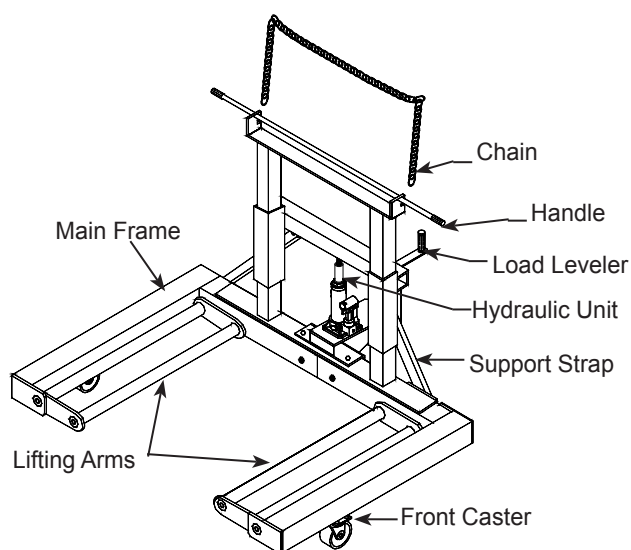

Figure 2 - 47053 Wheel Dolly Components
**47053 Assembly** (refer to Fig. 2 & 4)
1. Attach 3 1/2" caster (1) to left and right main frame (2 & 3) with bolts & washers (4).
2. Attach 5" caster (5) to rear support (6), with bolts, washers & nuts (7).
3. Insert left main frame (2) into right main frame (3).
4. Attach upright (8) and rear support (6) into the main frame assembly (2 & 3) with two bolts & nuts (9) and four bolts, washers & nuts (10).
5. Attach support straps (11) to the mounting ears of upright and main frame with bolts, washers and nuts (12).
6. Attach hydraulic unit (13) onto the upright assembly (8).
7. Insert load leveler handle (14) to rear support (6) with pin and cotter pin (15 & 16).
8. Attach the chain (17) onto upright assembly.